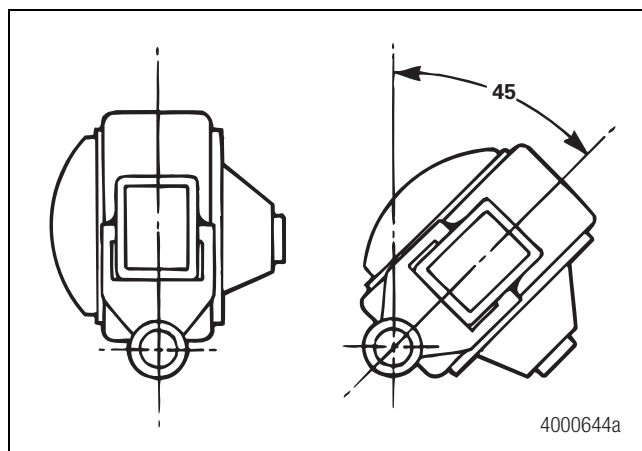

Figure 3.25
8. Position the axle housing so that the front and rear faces are at 45-degree angles. Figure 3.25.